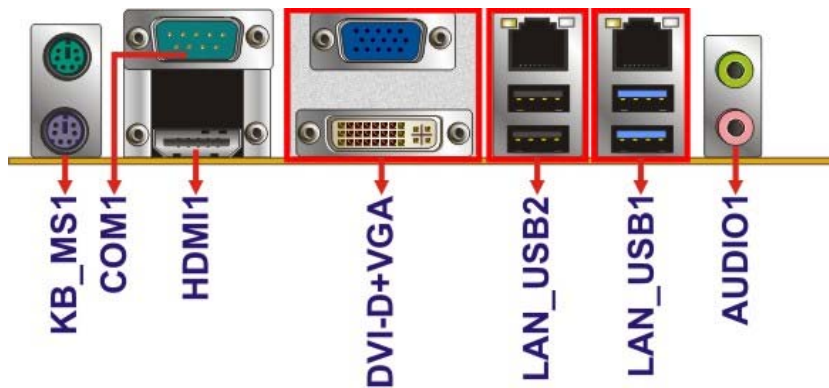

Figure 3-31: External Interface Connectors
CN Location: See **Figure 3-31**
- CN Location:** See **Figure 3-31**